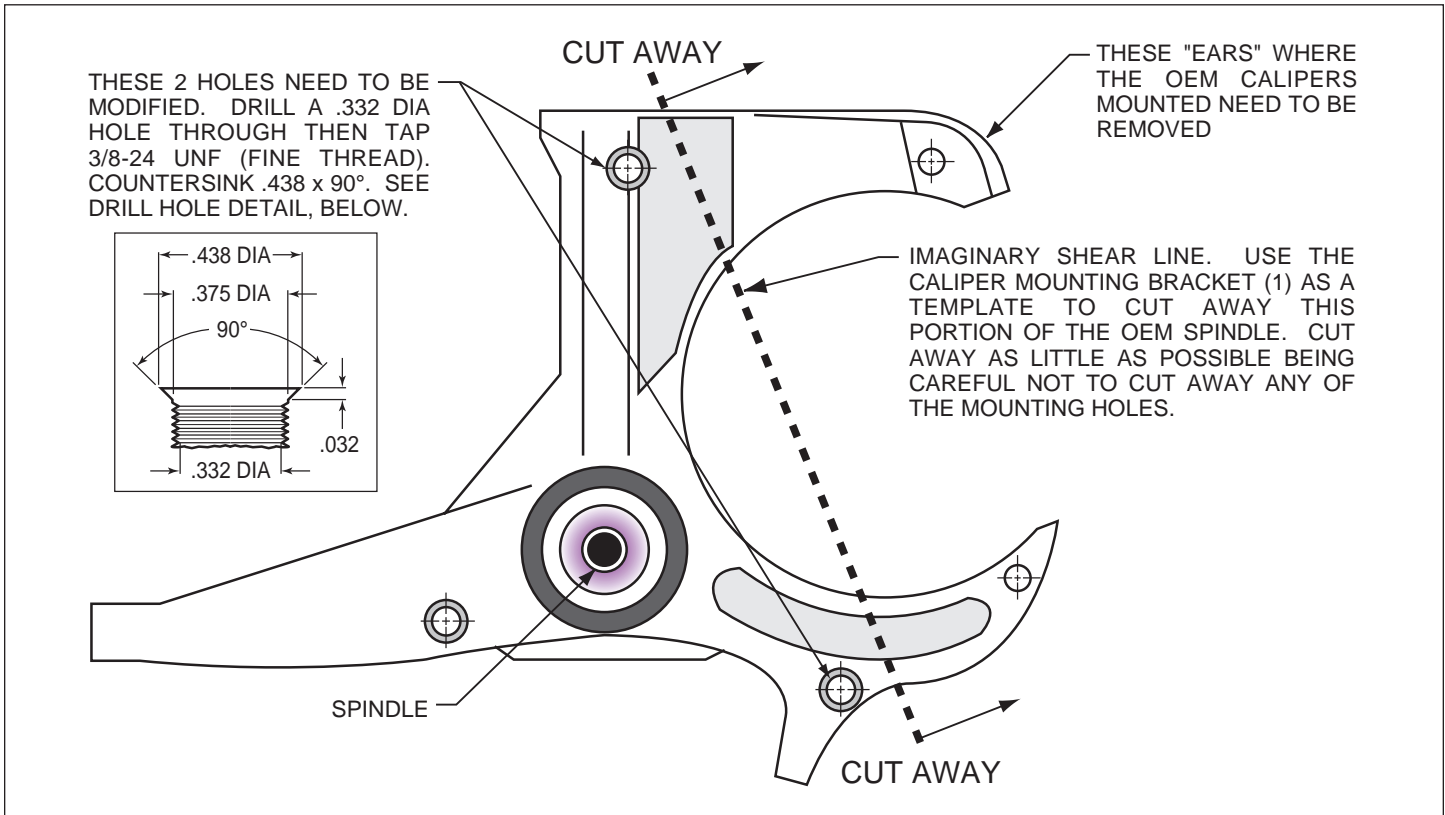

Figure 1. Steering Arm / Spindle Modifications
NOTE: This modification should be performed by a qualified machinist and completed before assembly of the Wilwood disc brake kit begins. Refer to Figure 1 as necessary (numbers in parenthesis refer to the parts list). Only one view of the steering arm/spindle is shown, but the modifications need to be performed on both steering arm/spindles.
The two stock holes that will be used to mount the caliper mounting bracket (1) need to be modified, as shown in Figure 1. Drill a .332 diameter hole through the two holes, then tap 3/8-24 UNF (fine thread). Countersink the holes to .438 x 90°. The "ears" that protrude to form a "C" shape need to be removed to facilitate the installation of the Wilwood caliper (15). Using the bracket as a template, mark two cut marks on the steering arm. Remove as little as necessary from the "C" shape, being careful not to cut away any of the mounting holes required to bolt on the bracket.